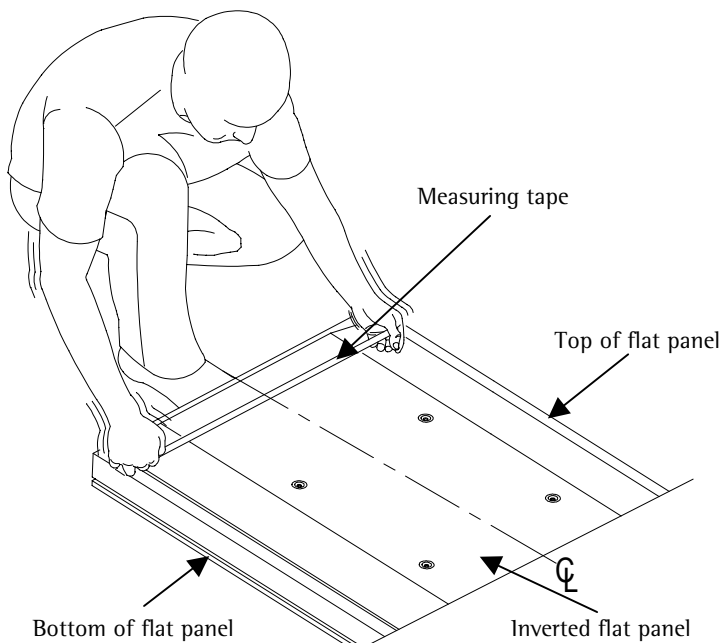

Figure 4
1. Once the flat panel is inverted, use a measuring tape to find the center of your flat panel, measuring from outside to outside of the chassis (Figure 4).